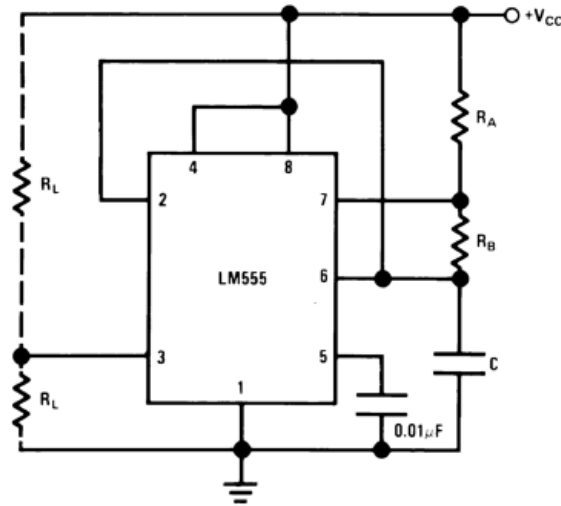
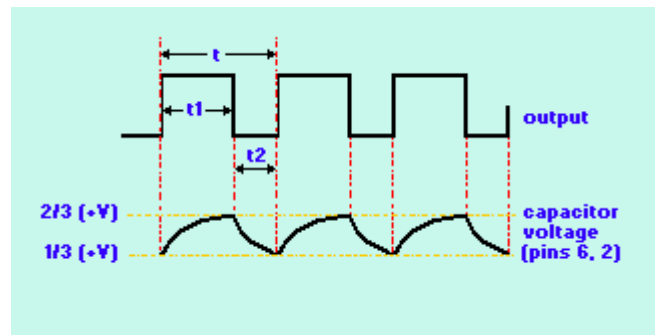

Figure 2.11 Astable circuit
Figure 2.13 Pulse form signal
Astable circuit is shown in figure 2.11. Both the trigger and threshold inputs (pins 2 and 6) to the two comparators are connected together and to the external capacitor. The capacitor charges toward the supply voltage through the two resistors,  $R_1$  and  $R_2$ . The discharge pin (7) connected to the internal transistor is connected to the junction of those two resistors. When power is first applied to the circuit, the capacitor will be uncharged. Therefore, both the trigger and threshold inputs will be near zero volts (see Figure 2.13). The lower comparator sets the control flip-flop causing the output to switch high. That also turns off transistor  $T_1$ . That allows the capacitor to